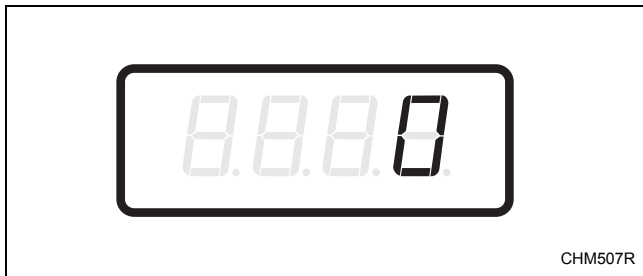

Figure 21
2. When “SA17” appears in the display, press the START (enter) keypad. There are five digits in the Special Vend A Vend Price #7. The fifth digit will appear in the display and will flash one second on and one second off. Refer to *Figure 21*.